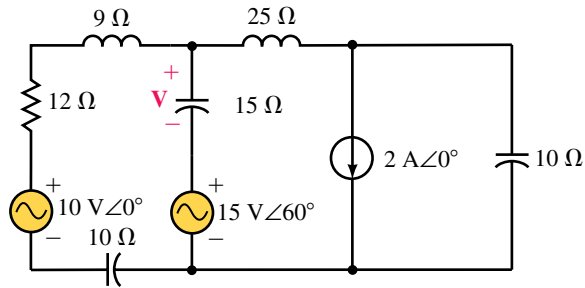

FIGURE 19–59
14. Consider the circuit of Figure 19–60.